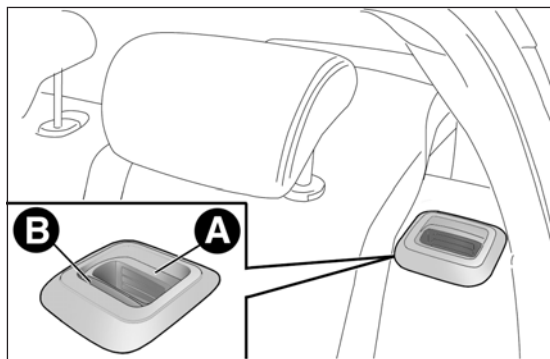

fig. 76
- raise lever A fig. 76 to fold the left or right side of the backrest and then guide the backrest onto the cushion (when lever A is raised, you will see a red band B).
Raise the previously folded backrest until you hear the click of the locking mechanism, visually checking that the red band on lever A fig. 76 has disappeared. The red band indicates that the backrest is not secured.